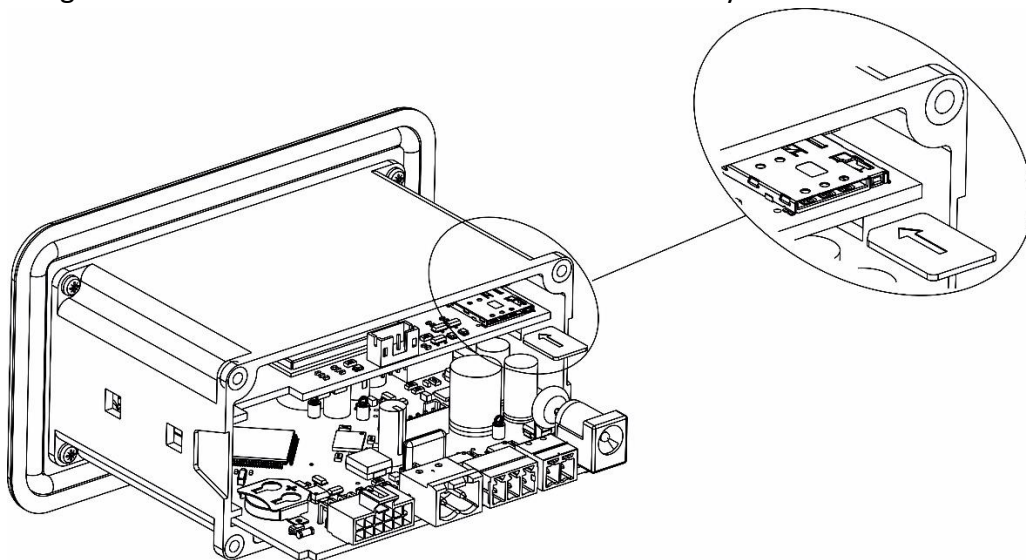

Figure 6 Insert Sim card
- Open the enclosure, gently push the sim card into the sim card slot provided as shown in the figure 6. Ensure that the sim card is inserted correctly.